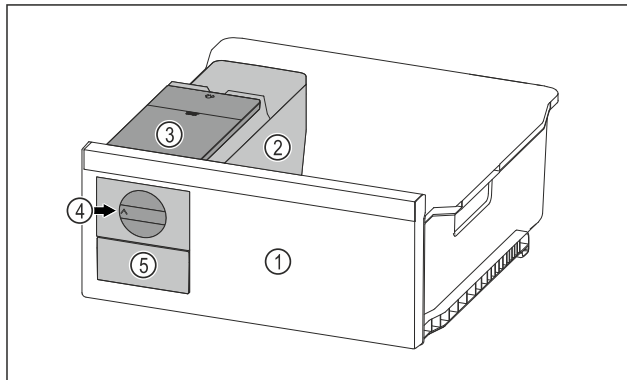

Fig. 70 Example illustration
- ▶ Turn the rotary knob *Fig. 70 (4)* clockwise as far as it will go.
- ▶ Ice cubes fall from the ice cube tray into the ice cube drawer *Fig. 70 (5)*.